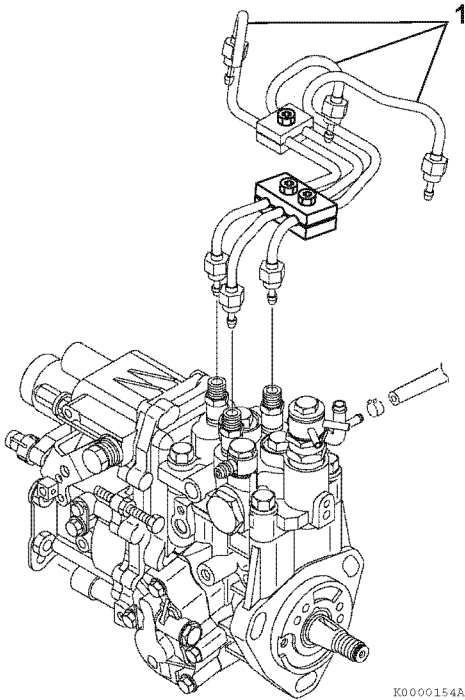

Figure 7-50
2. Remove the high-pressure fuel injection lines as an assembly (Figure 7-50, (1)).